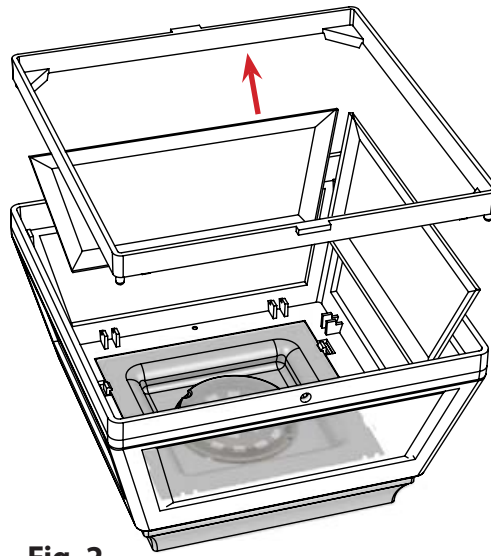
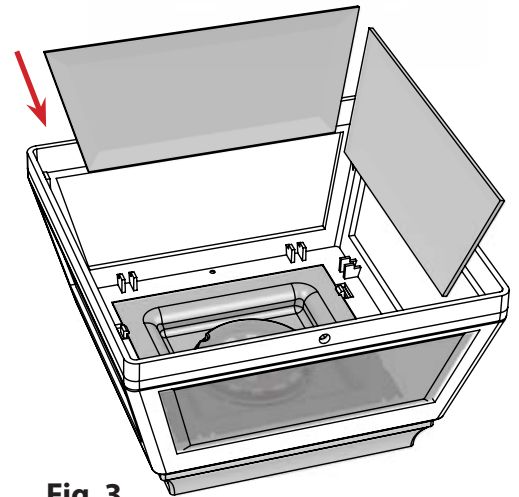

Fig. 2
Fig. 3
2. Remove glass retaining ring and set it aside (Fig. 2).
3. Carefully slide clear lens inserts out (Fig. 2) and replace with frosted lens inserts (Fig. 3).